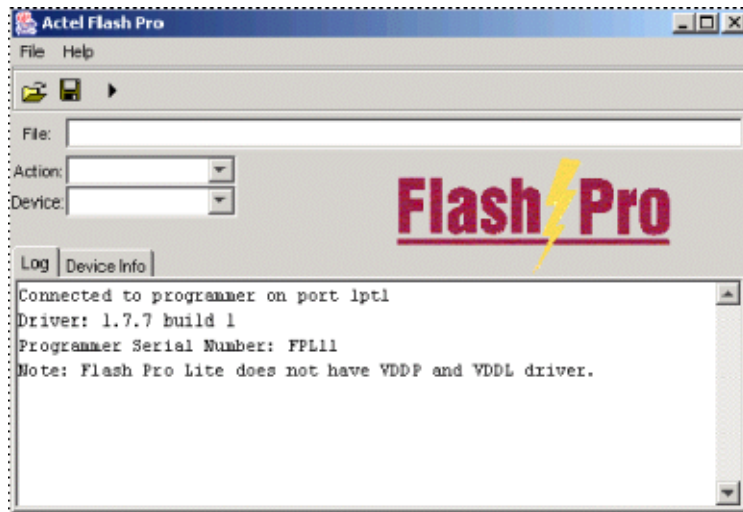

Figure 5-28. FlashPro Lite Successful Connection
5. Click *Connect*. A successful connect, or any errors, appear in the Log window, as shown in Figure 5-28.